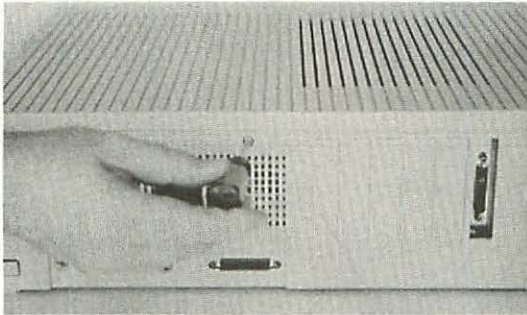

Figure 4-1 The lid of the Macintosh II/IIx/IIfx CPU is fastened by a single #1 Phillips-head screw.
The lid of the Macintosh II/IIx/IIfx CPU is fastened by a single #1 Phillips-head screw. As shown in Figure 4-1, the screw is located at the top center of the real panel. Remove the screw, and put it in the parts container.
3. Remove the computer's lid as shown in Figures 4-1 and 4-2. If necessary, refer to the take-apart procedure for the Macintosh II/IIx/IIfx given at the beginning of this chapter.